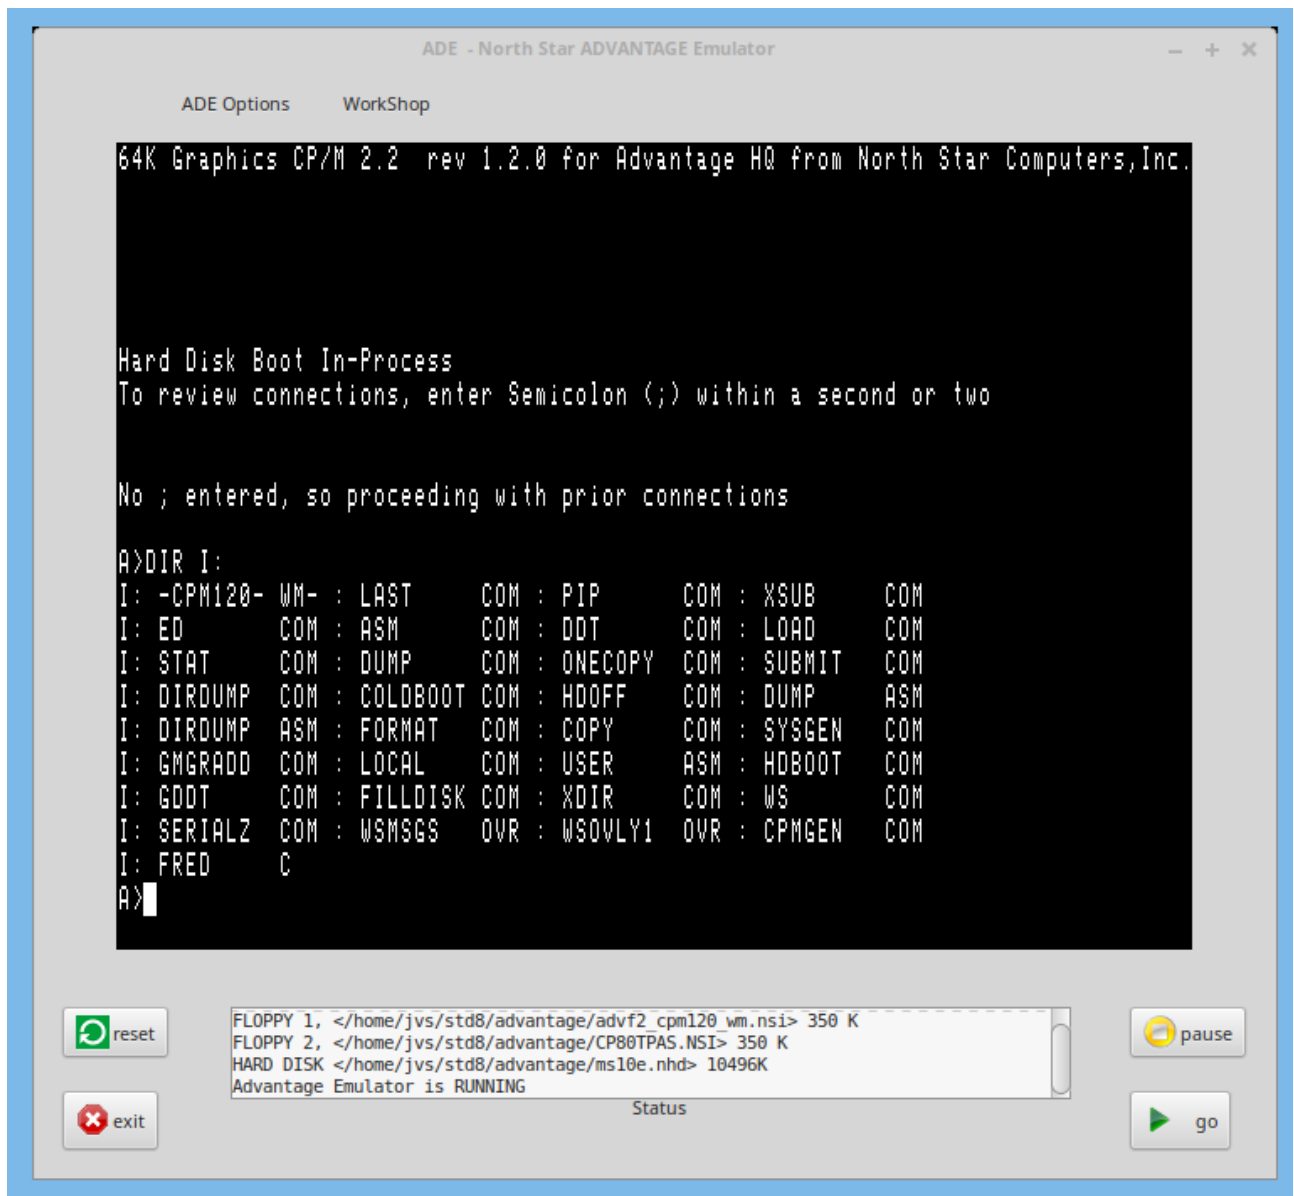

Fig. 3. CP/M Banner including Hard Disk Boot. Followed by a directory listing of the boot disk.
- Fig. 3, Page 10: CP/M Banner including hard Disk Boot.